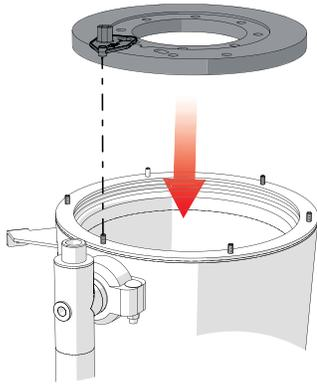

Fig. 5: Combustion Chamber Insulation Installation
- Install the new combustion chamber insulation in the heat exchanger so that the alignment tool goes over the correct heat exchanger stud as shown in Fig. 5.